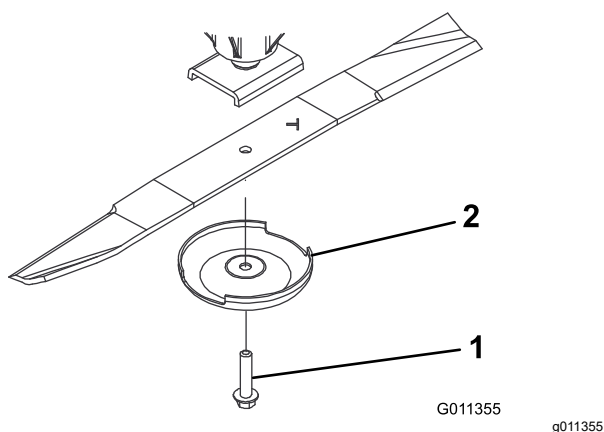

Figure 73
3. Remove the blade bolt, anti-scalp cup, and blade from the spindle shaft (Figure 73).